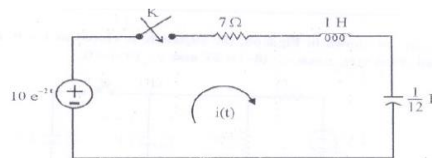

Fig.6.57
30. In the circuit shown in Fig.6.57, the switch. is closed at $t. = 0$, with zero initial conditions. Find $i(t)$ using L.T. method.